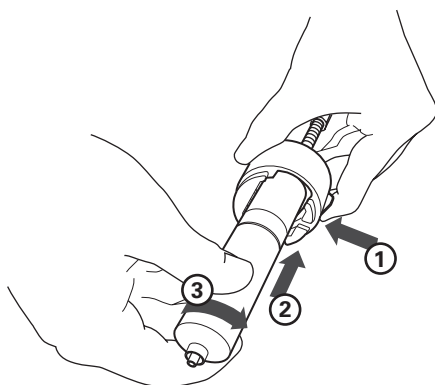

Figure 5-3 Align and push cartridge into the cap, and then rotate the cartridge to secure it.
4. Press the lever and push the cartridge into the cap. Align the cartridge so that it fits fully into the recess in the cap (Figure 5-3).